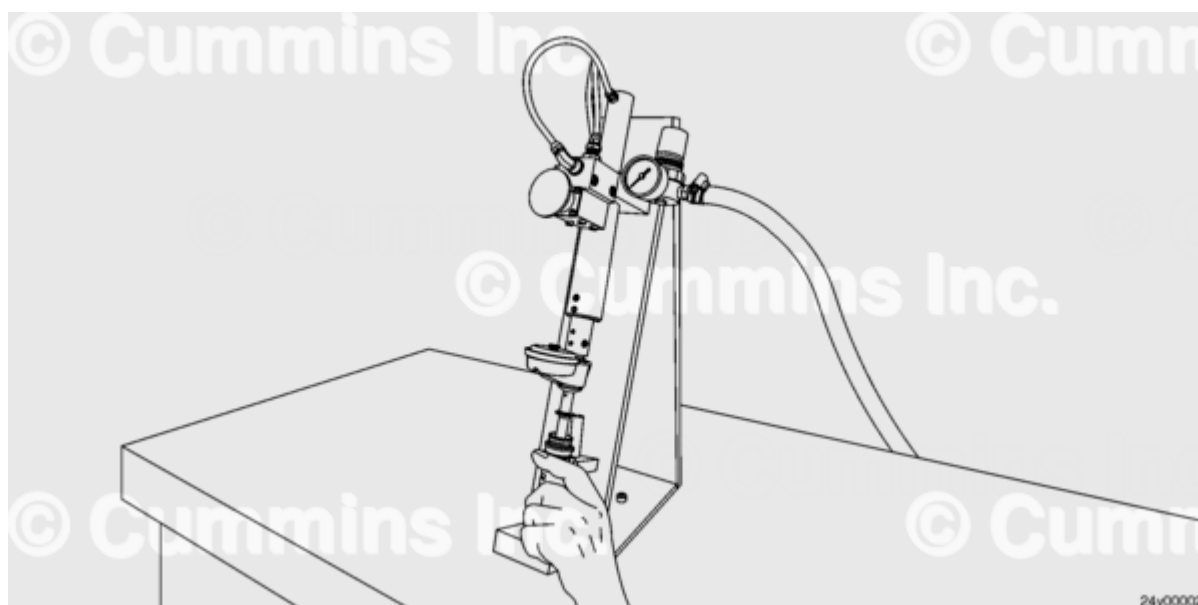

Figure 2: Move injector and observe the reading
5. Rotate the injector adapter and observe the reading. Refer to Figure 2.